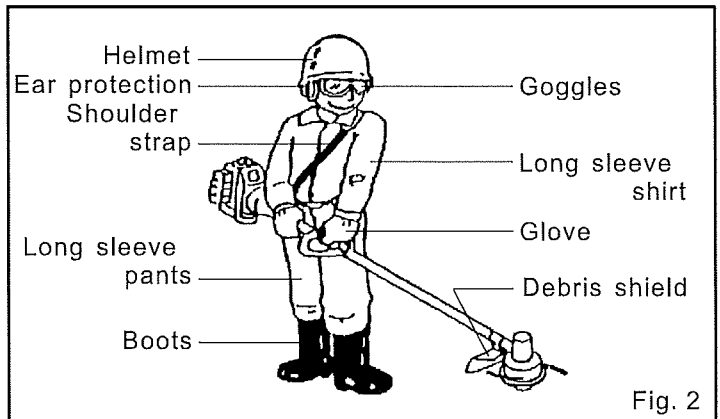

Fig. 2
- Wear proper protective clothing and protective equipment such as goggles, face shield, gloves, boots and ear protection when operating your trimmer or brushcutter with the M-Twist trimmer head. Your trimmer or brushcutter must be equipped with a safety strap and debris shield. (Fig.2)